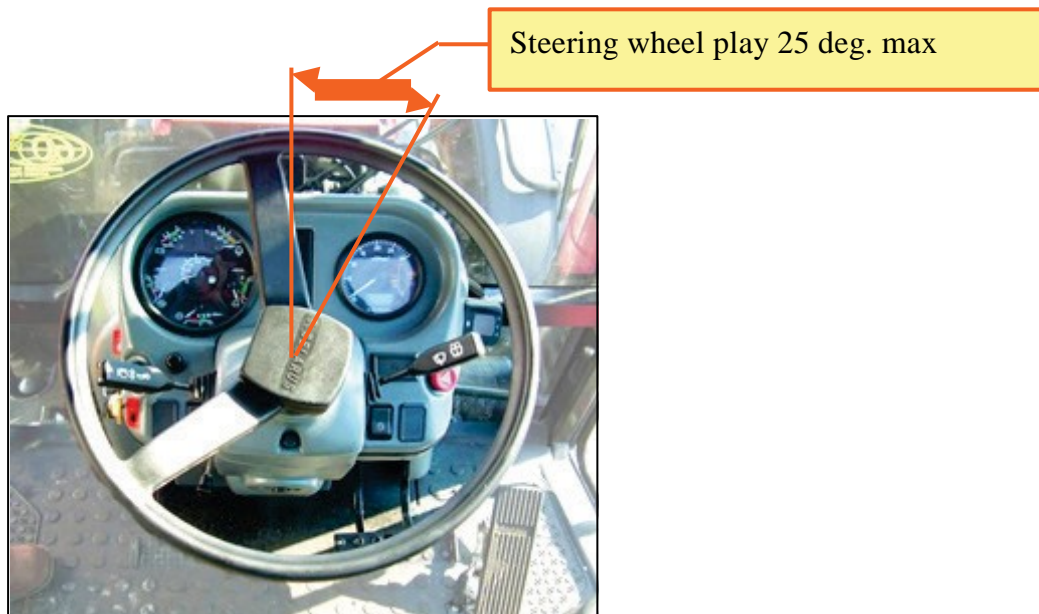

Figure 8.35
**Procedure 29 Checking the Steering Controls for Play (fig. 8.35)**